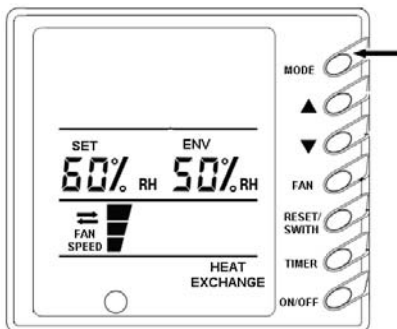

Fig.8
3.1.5 Running Mode Setting (Fig.8)